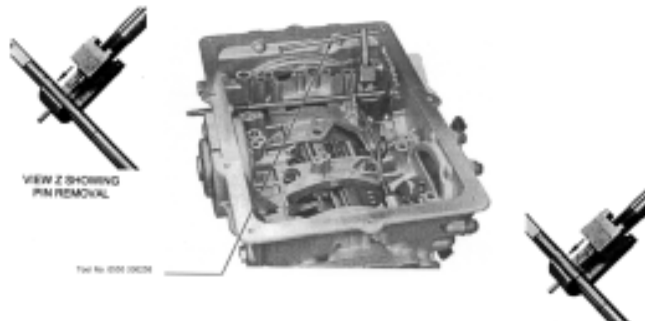

Figure 8.3 Installation and disassembly of cross-axle pin
- d. Use the tools, press down the cross-shaft pin and take out the shaft , reset spring and bolt from the housing. Refer to Figure 8.3.